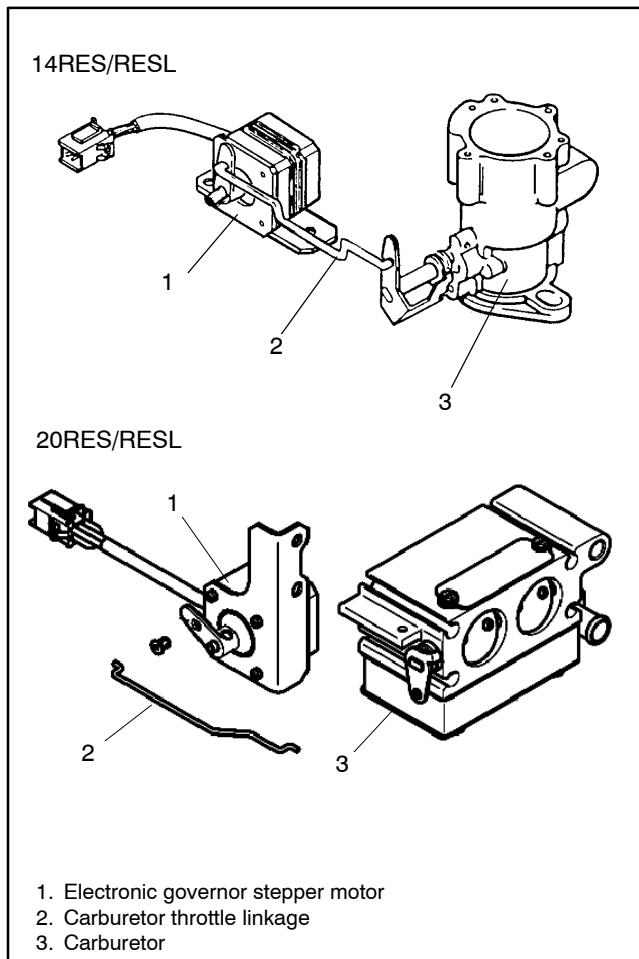

Figure 5-16 Stepper Motor and Carburetor
3. Hold the throttle linkage steady while the engine is running. See Figure 5-16. If the engine runs at a steady speed with no hunting or surging when the throttle is held steady, then the hunting/surging problems during operation are probably caused by the governor. Proceed to Section 5.9.4.
1. Verify that the carburetor throttle linkage is connected to the stepper motor as shown in Figure 5-16.